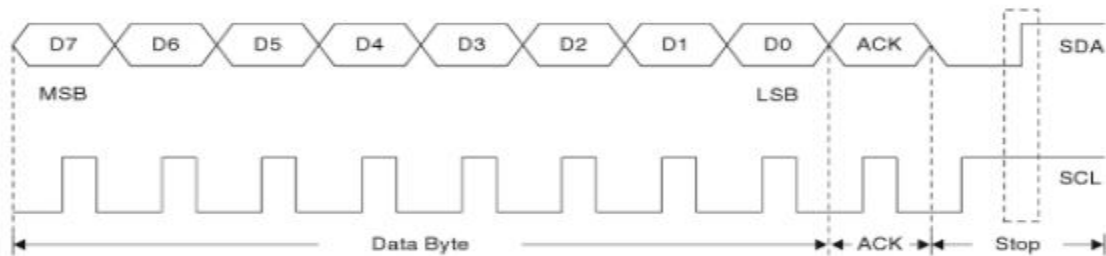

Figure 5.9b | Data transfer between the master and slave
- Now a byte can be received from the slave if the R/W bit is set to READ, or be written to the slave, if otherwise (see Figure 5.9b).